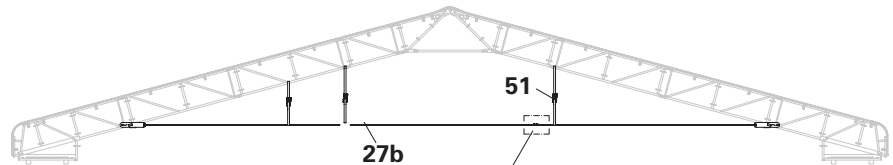

Fig. A7.04a
4. Screw-in an additional tie rod (**27a / 27b**) into the other end of the hex. nut of the tie rod extension as far as possible. (Fig. A7.04a) → Tie rods are coupled.